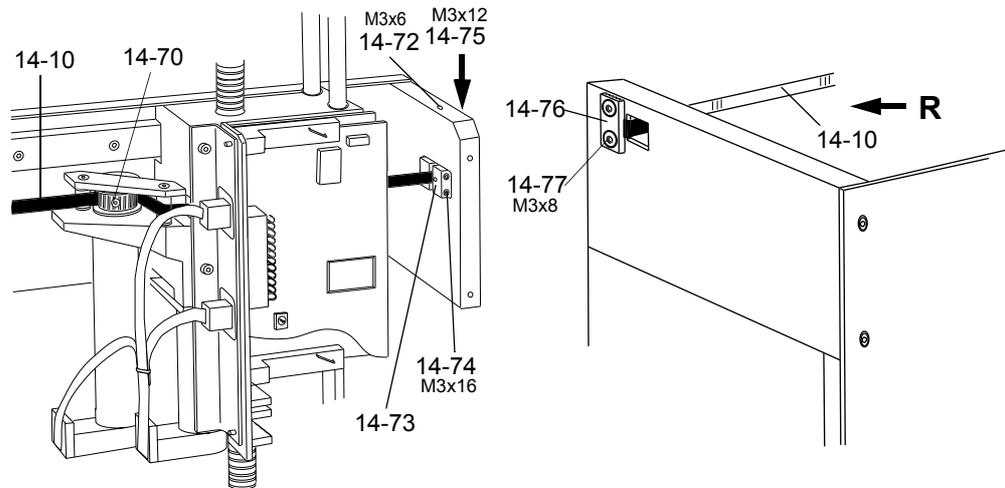

Figure 6-129 Fixing the Y-belt at the front and the rear
- 2 Fix the Y-belt (14-10) at the rear as shown on the right side of Figure 6-129.
- 3 Fix the Y-belt at the front as shown on the left side of Figure 6-129.
- 4 Tension the Y-belt by turning the screw (14-75, not visible in Figure 6-129).